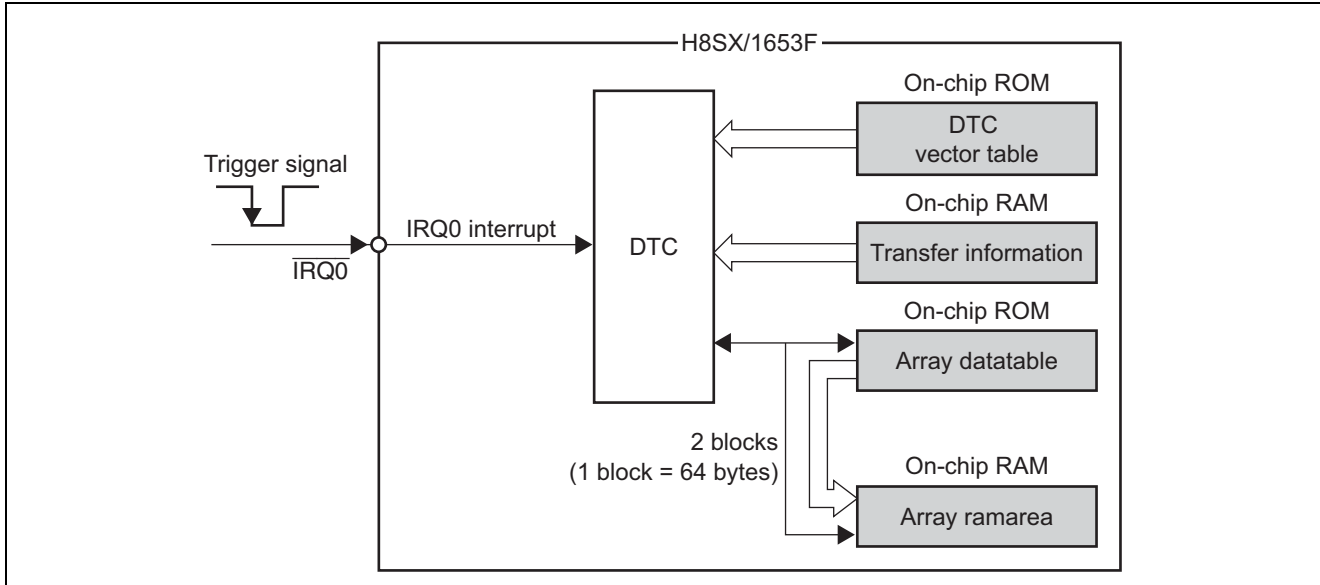

Figure 1 Block Data Transfer by the DTC with Transfer Information Read Skipping Processing
- Figure 1 shows a block diagram of data transfer by the DTC for this sample task.